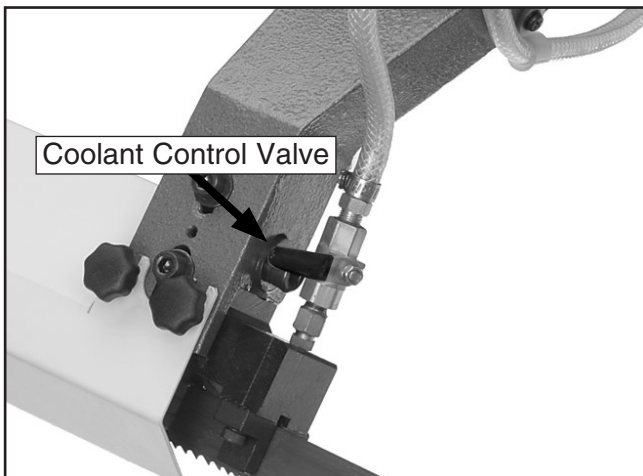

Figure 27. Coolant control valve.
4. Adjust the valves on the coolant hoses to control the flow of coolant (see **Figure 27**). Make sure that the pressure is not so high that coolant spills on the floor and creates a slipping hazard.